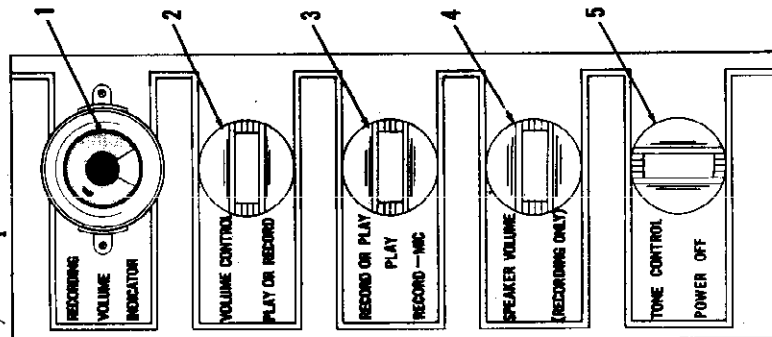

Fig. 33—Amplifier Controls
Set the controls as follows: (See Fig. 33 for controls).
1. Turn the Selector Switch (3 Fig. 33) to the "Record-Radio" position.
2. Adjust the "Speaker-Volume" control (4) for the desired listening volume from the Soundmirror speaker.
3. Adjust the "Tone Control" (5) for the desired listening tone.
1. Turn the selector switch (3 Fig. 33) to the "Play" position.
2. The "Speaker Volume" control (4) is not used during the playback operation.
4. Adjust the "Volume Control" (2) for the desired listening volume.
5. Adjust the "Tone Control" (5) for the desired listening tone.